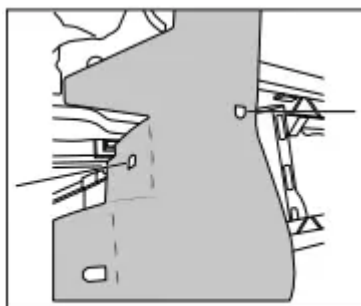

Figure: 1
■ **Attachment 1:** Locate the slit on the side shield and attach it to the hook on the side of the dishwasher. (See figure 1)